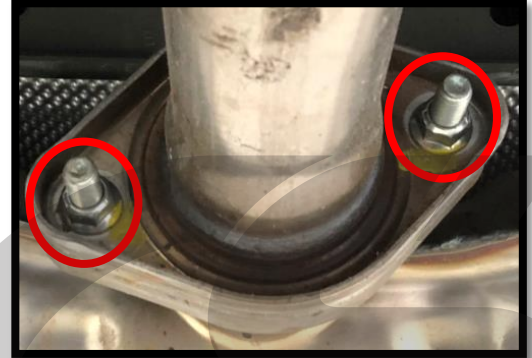

Figure 2b
c) Using a 14mm socket & ratchet, remove the two nuts that connect the OEM axle back section to the OEM midpipe section. Nuts are shown circled in red in **Figure 2b**.